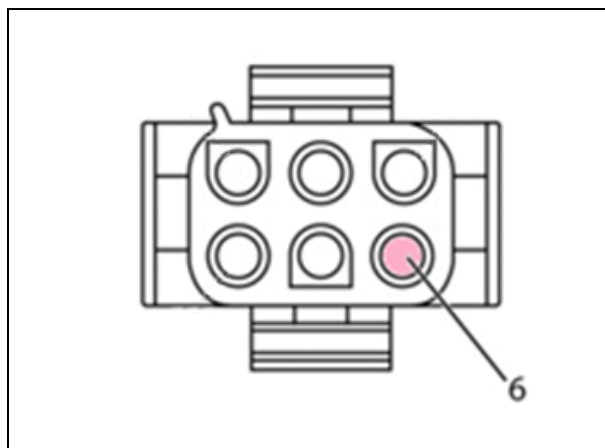

Figure 6
7. Using an ohm meter, test for continuity between the male end of connector MH-2, Pin 6 (pink wire) and body ground. (See Figure 6.)